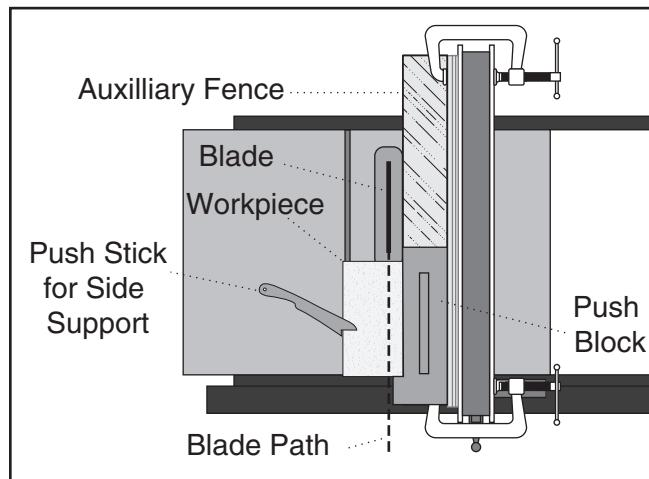

Figure 93. Push block in position to push workpiece through blade.
3. Place workpiece 1" behind blade and evenly against table and auxiliary fence (see **Figure 93**).